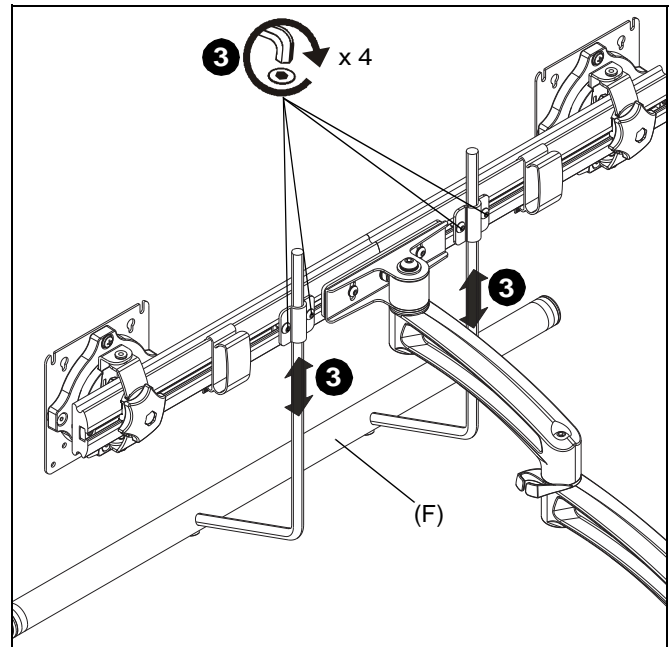

Figure 18
3. Position handle (J2) at desired height and secure by tightening button head cap screws attaching handle brackets to array. (See Figure 18)